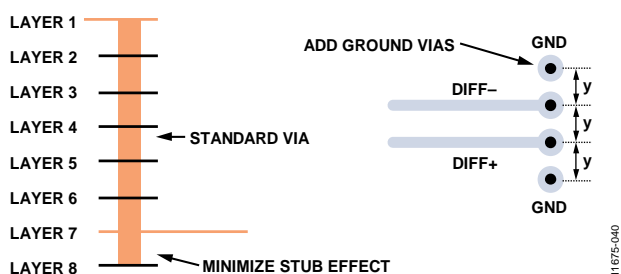

Figure 65. Minimizing Stub Effect and Adding Ground Vias for Differential Stripline Traces
- If using standard vias, use the maximum via length to minimize the stub size. For example, on an 8-layer board, use Layer 7 for the stripline pair (see Figure 65).
- For each via pair, place a pair of ground vias adjacent to them to minimize the impedance discontinuity (see Figure 65).